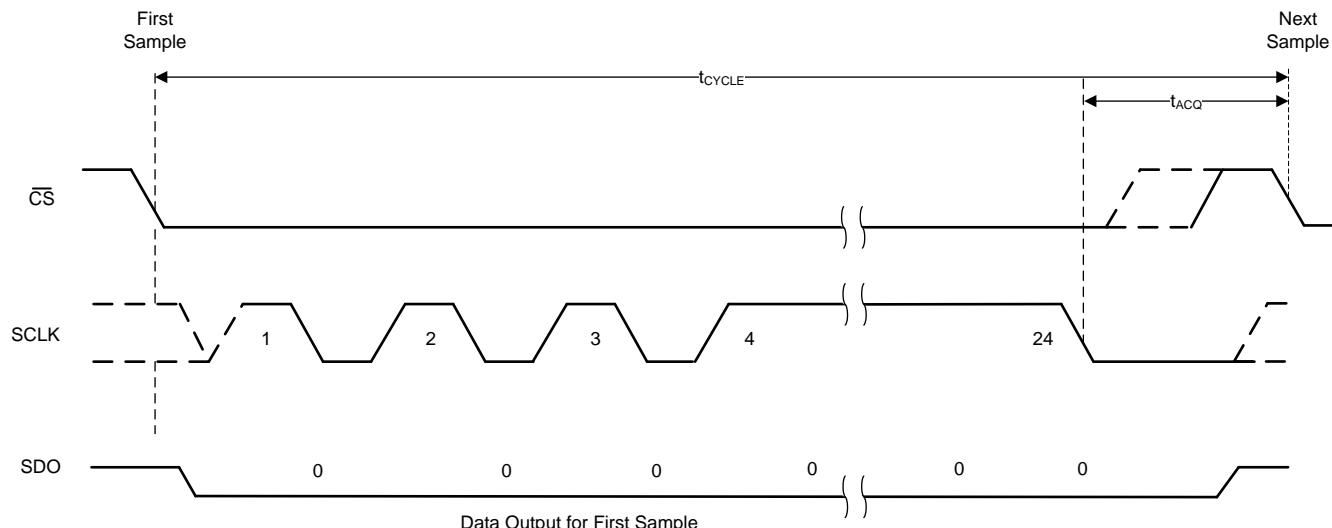
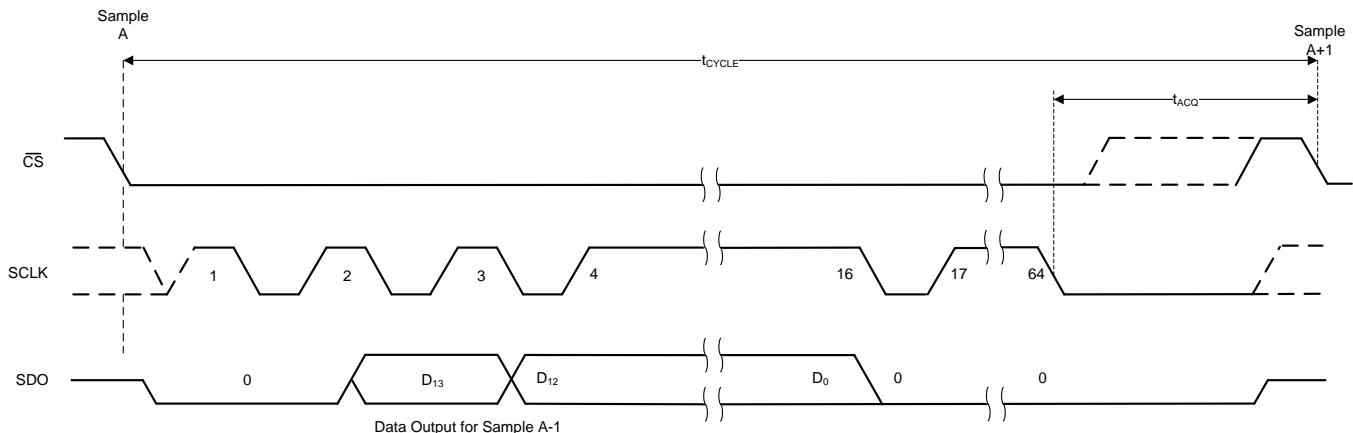

Figure 41. Timing for Offset Calibration on Power-Up
Figure 42. Timing for Offset Calibration During Normal Operation
The host controller must provide a serial transfer frame as described in Figure 41 or in Figure 42 to enter OFFCAL state.
On power-up, the host must provide 24 SCLKs in the first serial transfer to enter the OFFCAL state. The device provides 0's on SDO during offset calibration. For acquisition of the next sample, a minimum time of t_{ACQ} must be provided. If the host controller enters the OFFCAL state, but pulls the CS pin high before providing 24 SCLKs, then the offset calibration process is aborted and the device enters the ACQ state. Figure 41 and Table 2 provide the timing for offset calibration on power-up.
- (1) In addition to the timing specifications of Figure 41 and Table 2, the timing specifications described in Figure 2 and the Timing Requirements table are also applicable for offset calibration on power-up.
During normal operation, the host must provide 64 SCLKs in the serial transfer frame to enter the OFFCAL state. The device provides the conversion result for the previous sample during the first 18 SCLKs and 0's on SDO for the rest of the SCLKs in the serial transfer frame. For acquisition of the next sample, a minimum time of t_{ACQ} must be provided. If the host controller enters the OFFCAL state, but pulls the CS high before providing 64 SCLKs, then the offset calibration process is aborted and the device enters ACQ state. Figure 42 and Table 3 provide the timing for offset calibration during normal operation.
- (1) In addition to the timing specifications of Figure 42 and Table 3, the timing specifications described in Figure 2 and the Timing Requirements table are also applicable for offset calibration during normal operation.